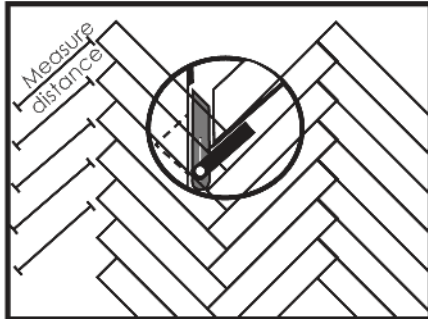

Fig 9.
9. Cutting and installing planks at the walls should be done as follows. Measure and mark planks as shown in diagram. The angle for the wall can be found using an angle finder (see below) (Fig 9.).